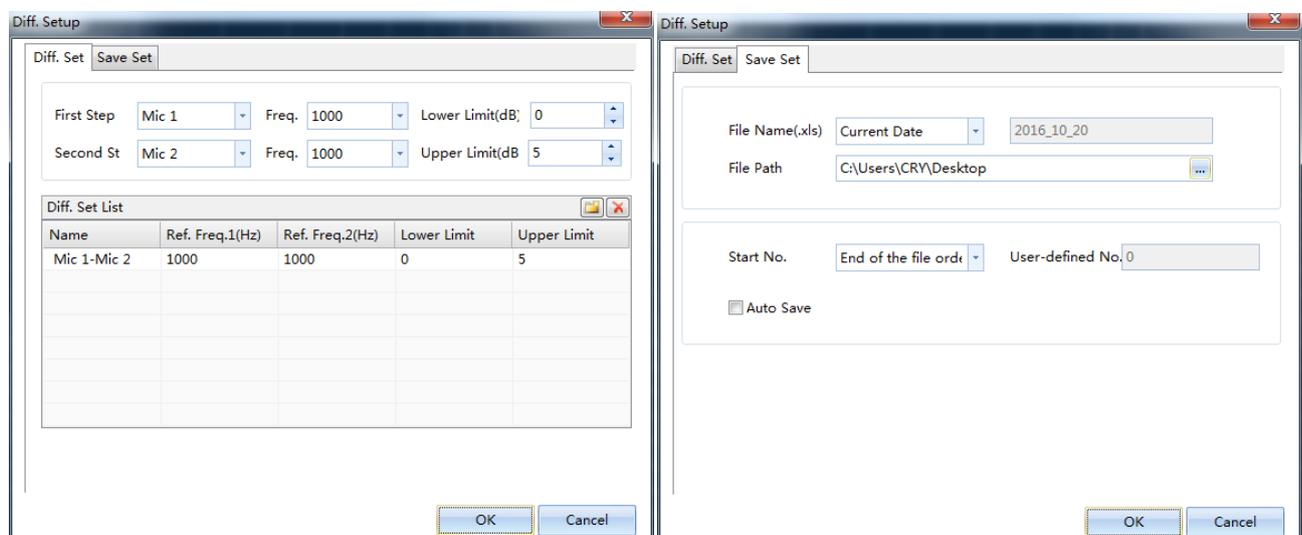

Figure 3.36 Differential Setup
- Differential Value setup is as shown in Figure 3.36 (L):
- Save setup is as shown in Figure 3.36 (R):